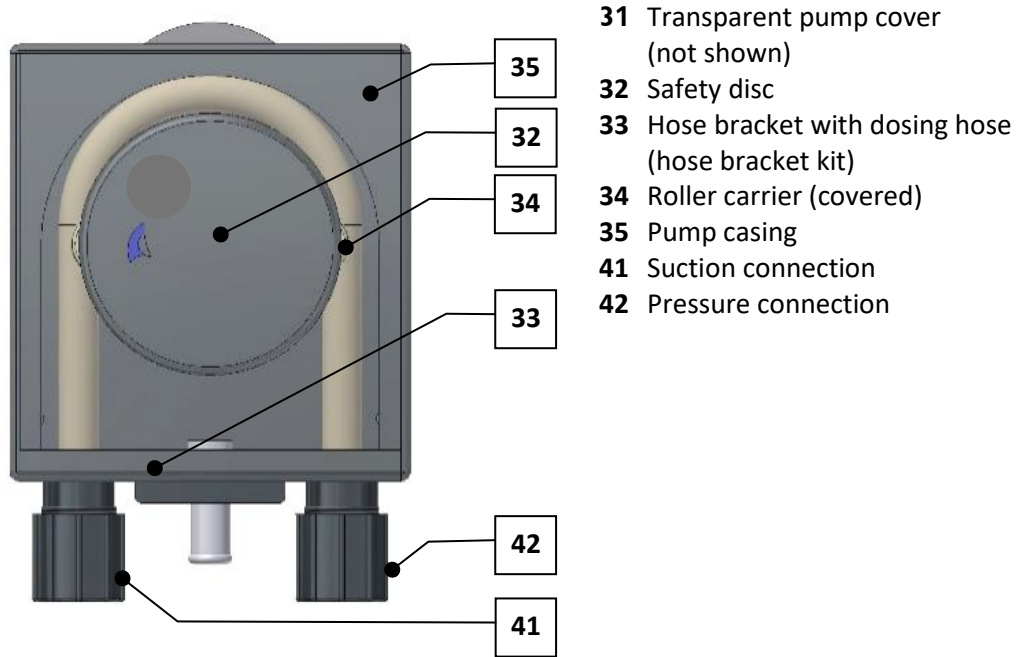

Fig. 13: Peristaltic pump
- 1) Remove the clipped-in transparent *pump cover* (Fig. 13, No. 31) and the *safety disc* (Fig. 13, No. 32) from the *pump casing* (Fig. 13, No. 35).
- 2) Pull the *hose bracket* (Fig. 13, No. 33) out of the guide in the housing.
- 3) Push the *roller carrier* (Fig. 13, No. 34) onto the shaft.
- 4) Insert the *hose bracket* (Fig. 13, No. 33) into the housing guides until it locks into place completely.
- 5) Turn the *roller carrier* (Fig. 13, No. 34) clockwise while carefully pressing the hose into the housing at the **roller carrier's flat side** until the entire hose is completely contained in the housing.
- 3) Loosen the two cable couplings. Pull the *Fog maker container (Fig. 13, No. 19)* forwards out of the bracket and remove it downwards.